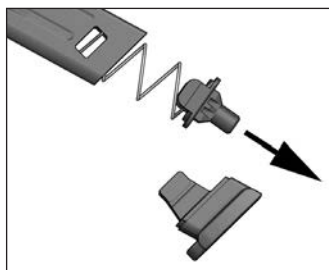

Figure 31
4. Gradually allow the locking insert and magazine spring to expand out of the magazine housing (see Figure 31).